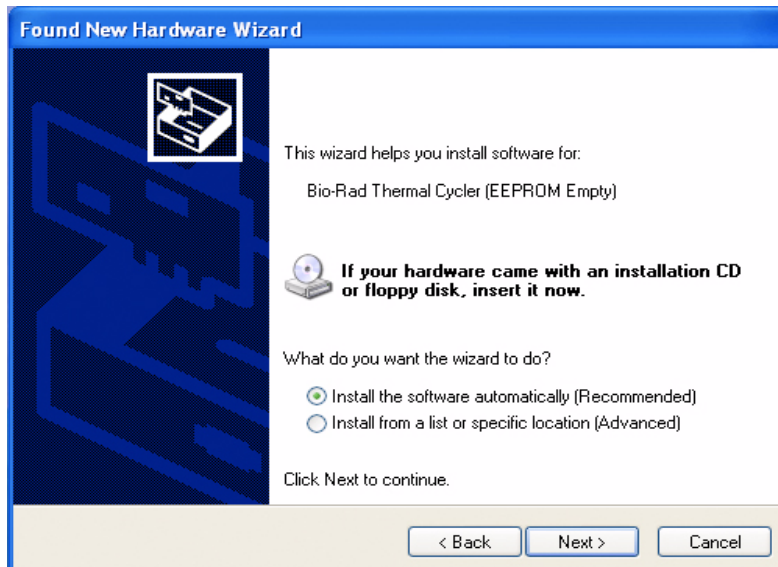

Figure 5. Software (Driver) installation screen.
5. Select **Install the software automatically** to install the Bio-Rad Thermal Cycler (EEPROM Empty) driver. Click **Next** (Figure 5).